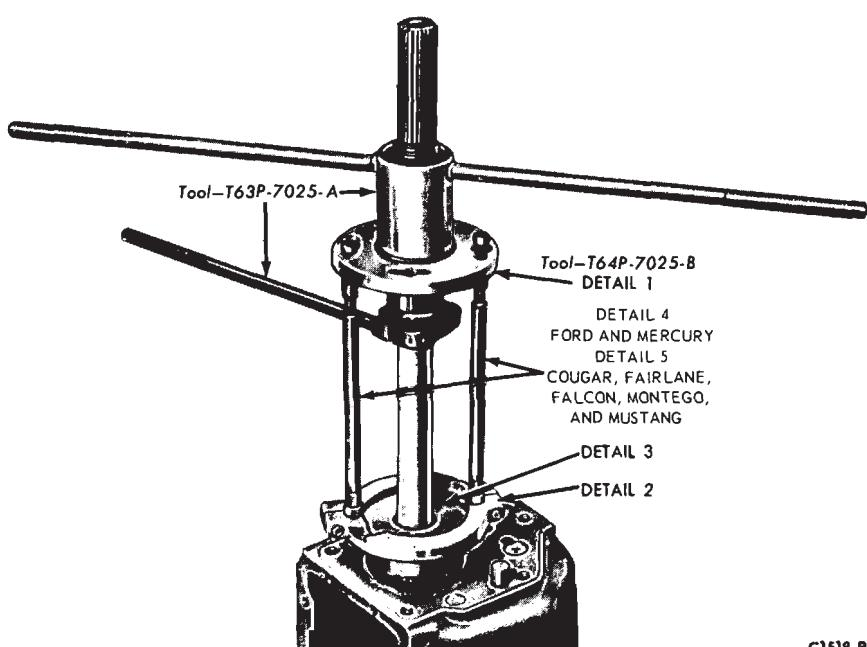

FIG. 22—Installing Output Shaft Bearing
31. Install the output shaft bearing as shown in Fig. 22. Install the snap ring to retain the bearing.